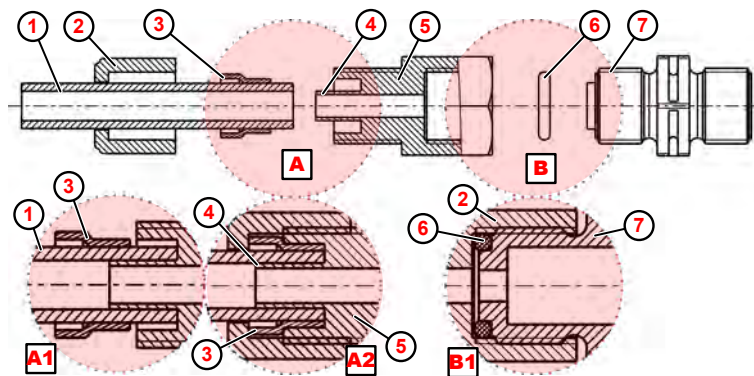

Fig. 7: Pipe and hose connection with integrated support sleeve
1. Place the o-ring (Fig. 7 , ⑥) in the groove of the suction or pressure valve ⑦ .
2. Tighten the screw connection ⑤ (for details, see B1).
3. Cut off the hose with a straight cut ① .
4. Slide the union nut ② over the hose ① .
5. Slide the clamping ring ③ over the hose ① .
6. Slide the hose ① over the support sleeve ④ until it engages (for details,: A1).
7. Tighten the screw connection ⑤ (for details, see A2).